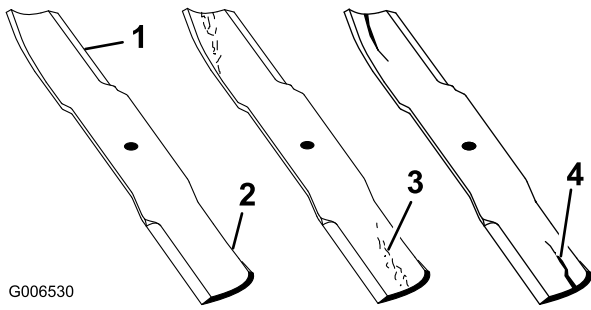

Figure 54
1. Inspect the cutting edges (Figure 54). If the edges are not sharp or have nicks, remove and sharpen the blades. Refer to Sharpening the Blades.
2. Inspect the blades, especially the curved area (Figure 54). If you notice any damage, wear, or a slot forming in this area (Figure 54), immediately install a new blade.